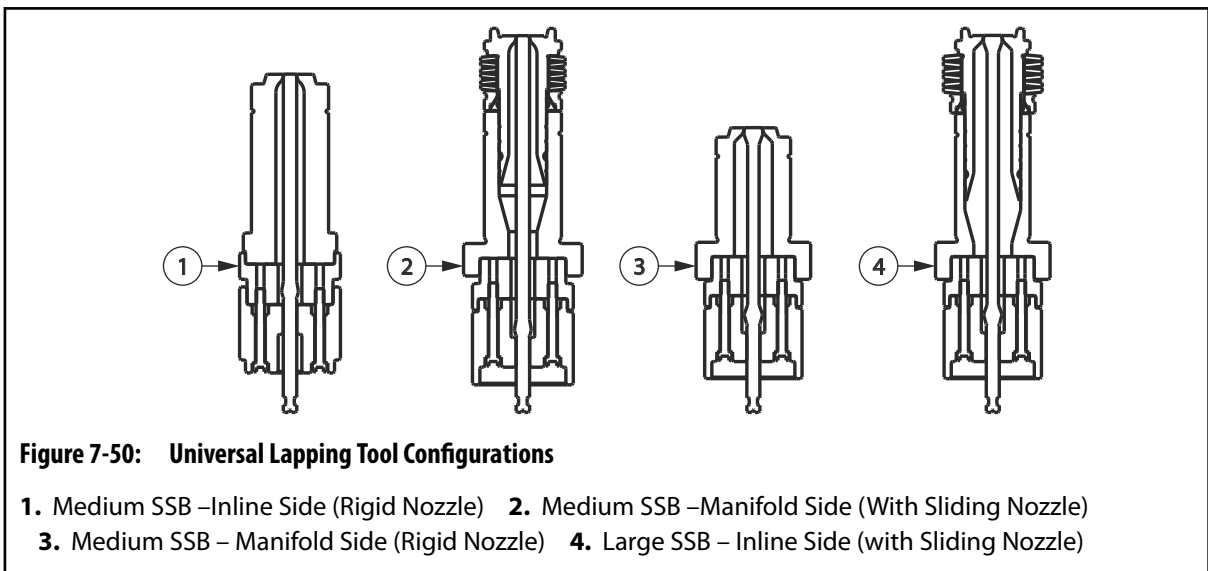

Figure 7-50: Universal Lapping Tool Configurations
1. Slide the valve stem through the lapping tool. Figure 7-50 shows the possible lapping tool configurations depending on your system.
8. Repeat procedure for all split sprue bar interfaces (reconfigure the universal tool per Figure 7-50).